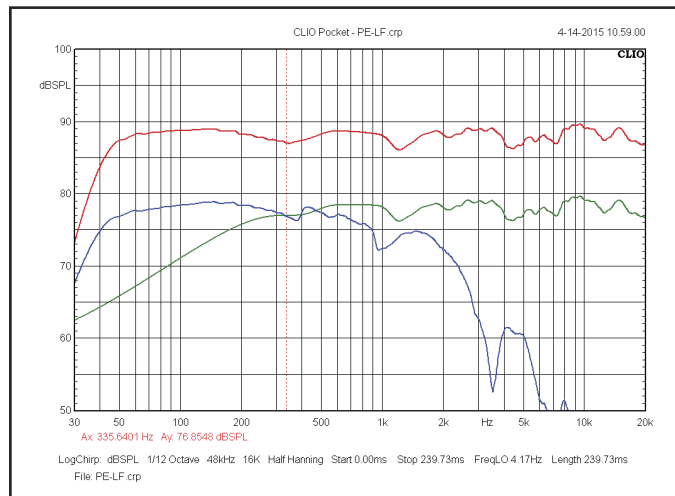

Figure 11: Far-field, low-frequency, and full-range responses
**Figure 11** shows the far-field response (green) and the low-frequency response (blue) level shifted to match the far-field sensitivity. The two plots meet around 350 Hz. Using the "Merge LF file" math option, the low-frequency response is merged with the far-field response at 350 Hz to get the final full range response (red), which has been level shifted up 10 dB for clarity.